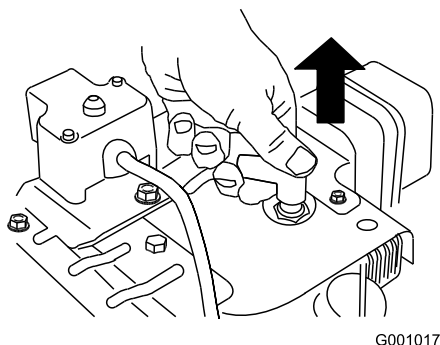

Figure 40
3. Disconnect the spark plug wire (Figure 40).